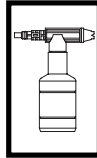

Figure 8
- Fill detergent applicator (Figure 8) with detergent.